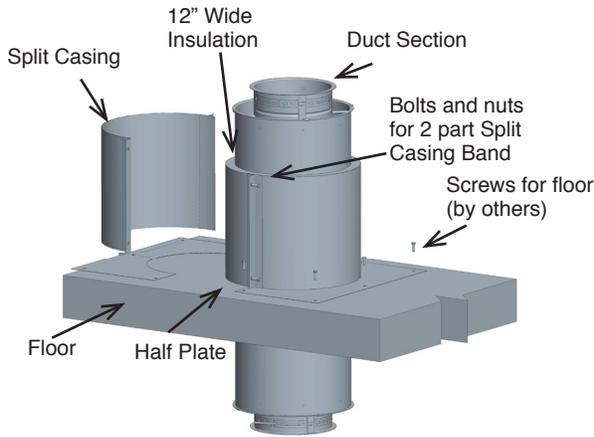

Figure 82- Step 1-2-3-4-5-6 of TPFK
6. Wrap a 12" wide strip of the fiber insulation around the grease duct. The insulation must butt up to the cover plate and outer wall of the duct. See **Figure 82**.